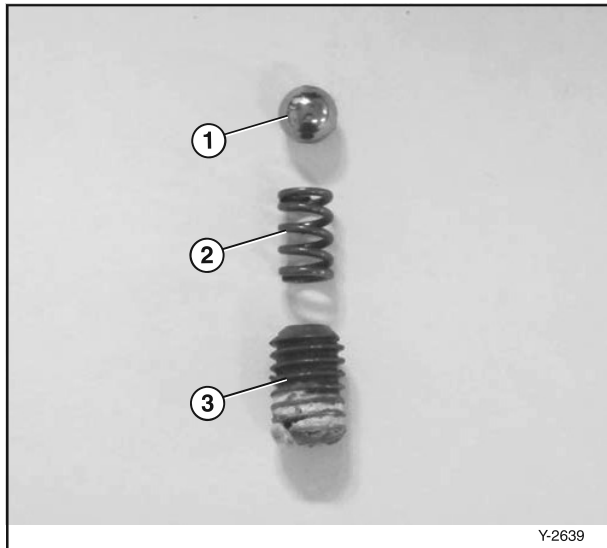

Figure 6-92
8. Install the detent ball (Figure 6-92, (1)), the spring (Figure 6-92, (2)) and the set screw (Figure 6-92, (3)).